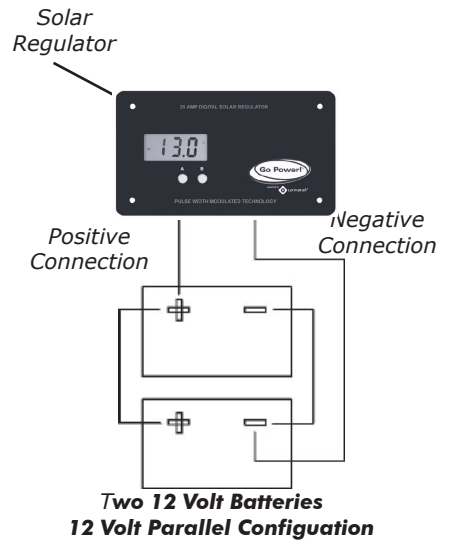

Figure 6
2. Parallel 12 Volt battery connection. (See Figure 6)